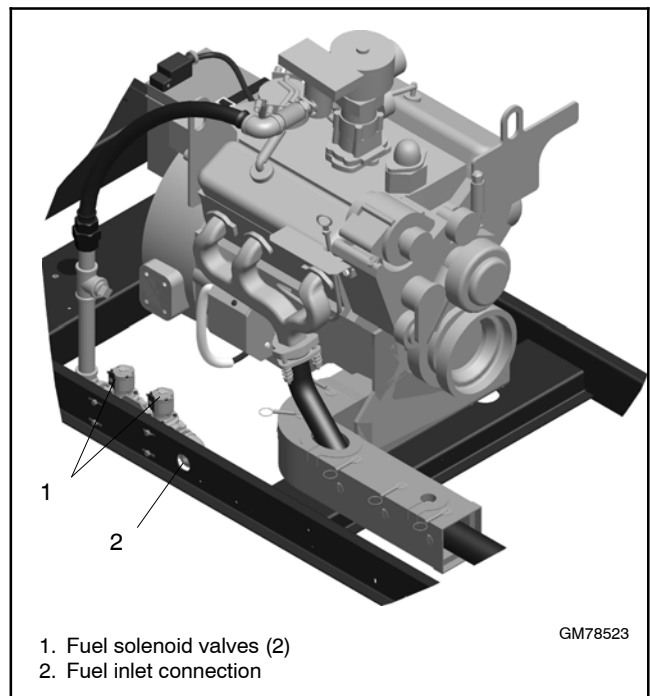

Figure 1-19 Fuel Supply Connection Location (generator set enclosure not shown)
- b. Use a section of flexible fuel line to connect the fuel supply to the 1 in. NPT fuel inlet connection on the generator set. See Figure 1-19 or the dimension drawing in Section 4 for the fuel inlet connection location.
Check the connections to the fuel solenoid valve to verify that the fuel system is set up for the type of fuel that will be used. See Figure 1-19 for the location of the fuel solenoid valve.